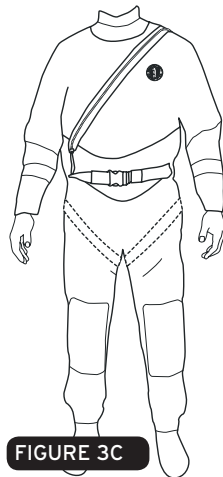

FIGURE 3C
4. The loose ends of the thigh straps should be secured under the hip patch with the Velcro™ closure to eliminate snag hazards [Fig 3C].